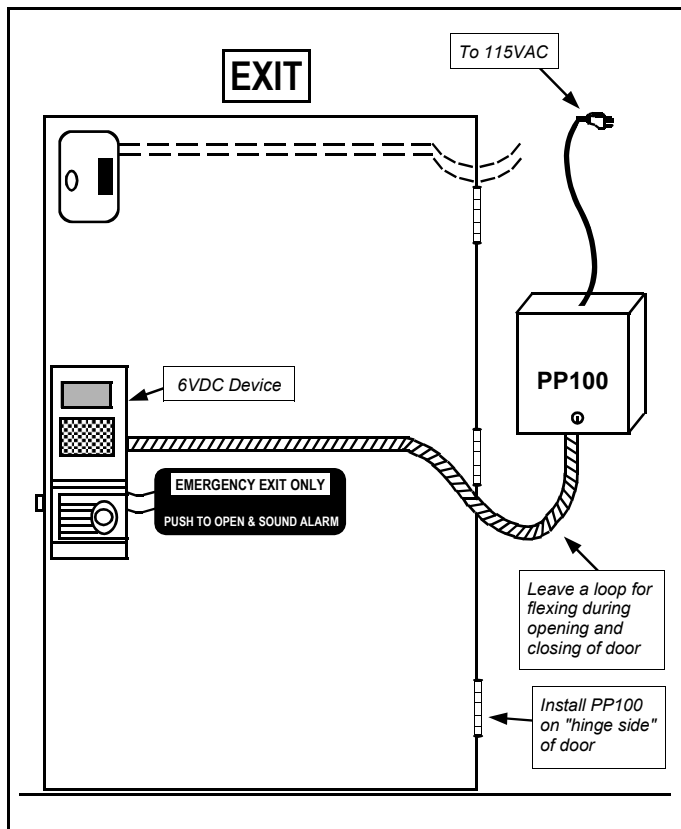

Figure 1: Typical "Surface Mounted" Application
5. For surface mounted applications, secure armored cable using cable clamps and #6 self-tapping screws (provided). If installing on the hinge side of a door as shown in Figure 1, be sure to leave a loop near the hinges for flexing when door is opened and closed.
For surface mounted devices where the PP100 and its armored power cable are mounted to a surface (such as a wall or a rear door surface as shown in Figure 1), a $\frac{1}{2}$ " hole and cable notch "slot" must be cut into the side of each device's alarm box or lock cover (see Figures 4-7).